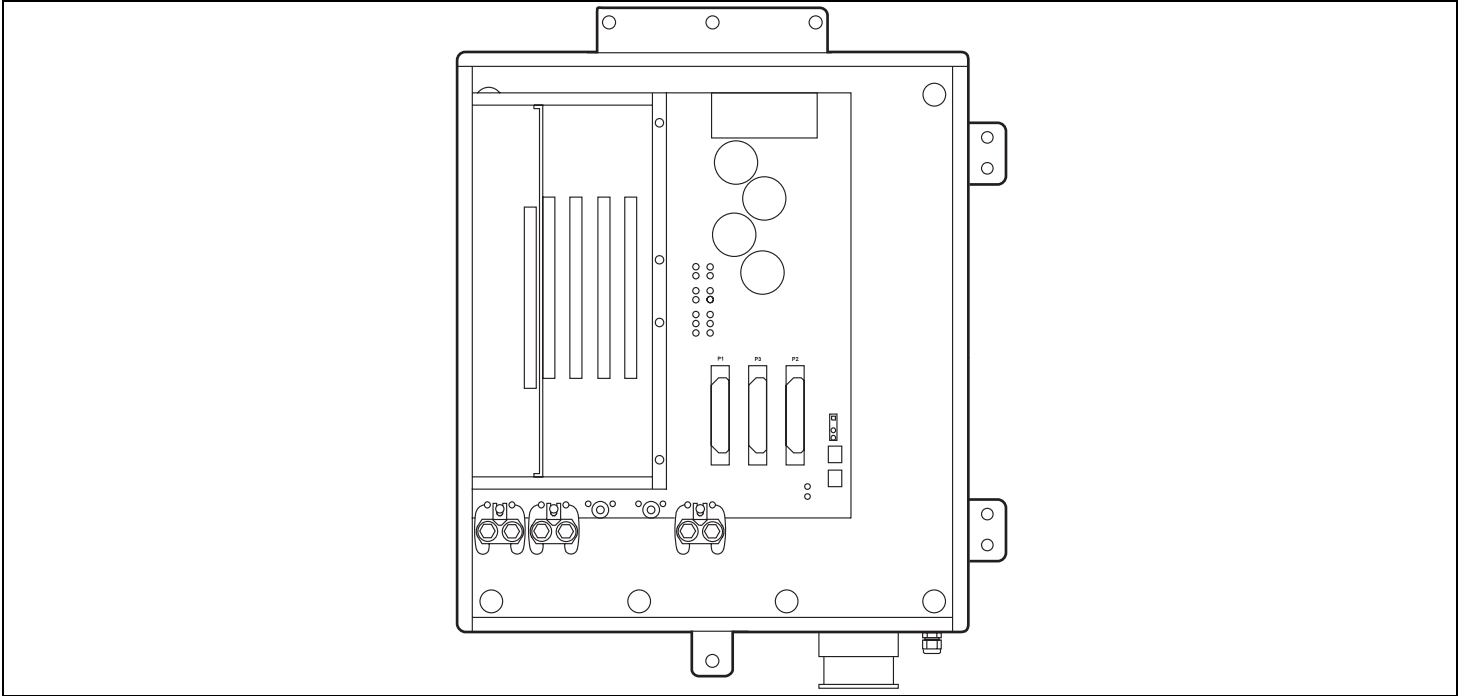
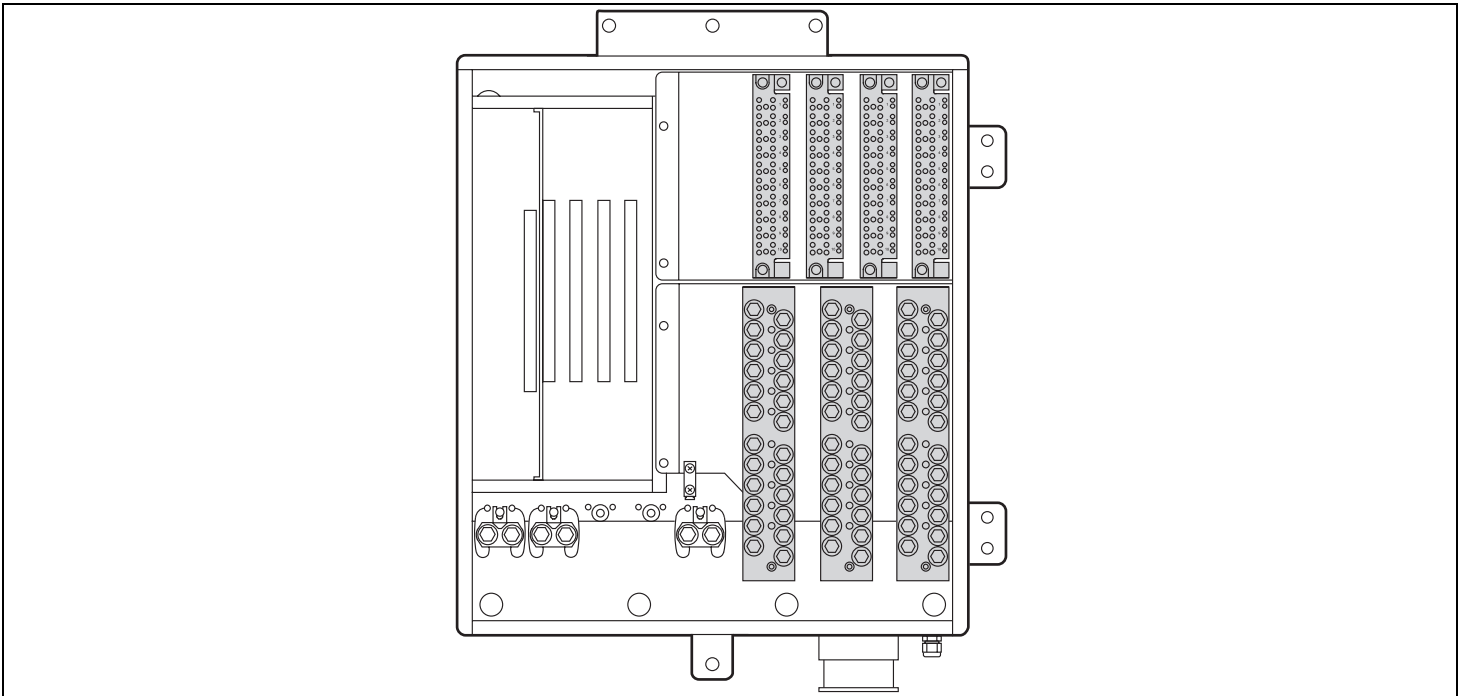

Figure 1. Inside view of the FRE-765, List 3 RT Enclosure.
Figure 2. Inside view of the FRE-765, List 3A RT Enclosure.
List 3 (Figure 1)	List 3A (Figure 2)
6.01 The backplane of the FRE-765, List 3-series RT Enclosure (Figures 1 and 2) contains the following connectors and fuse: